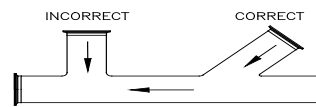

Figure 24
- Avoid abrupt transitions in the piping system (Figure 24).